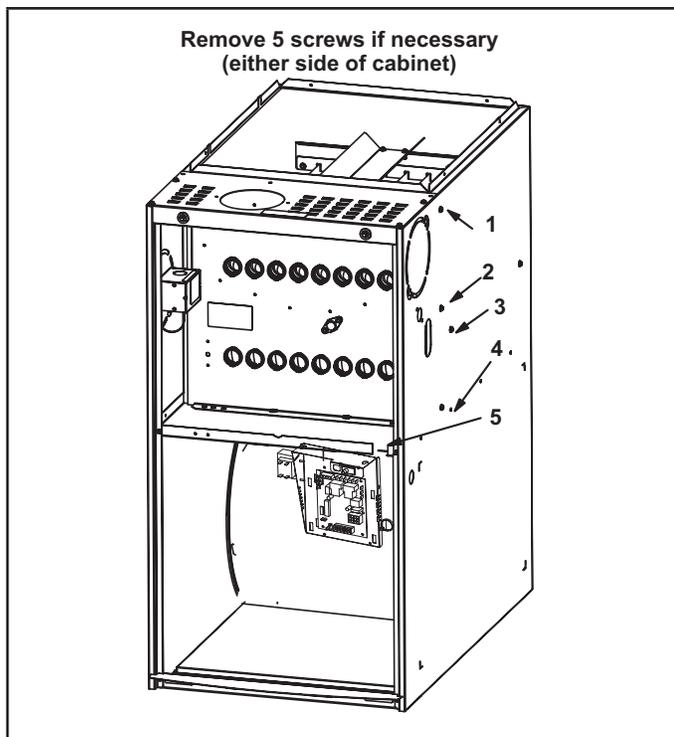

FIGURE 26
- 10 - Remove heat exchanger. It may be necessary to spread cabinet side to allow more room. If so, remove five screws from the left side or right side of cabinet. See FIGURE 26.